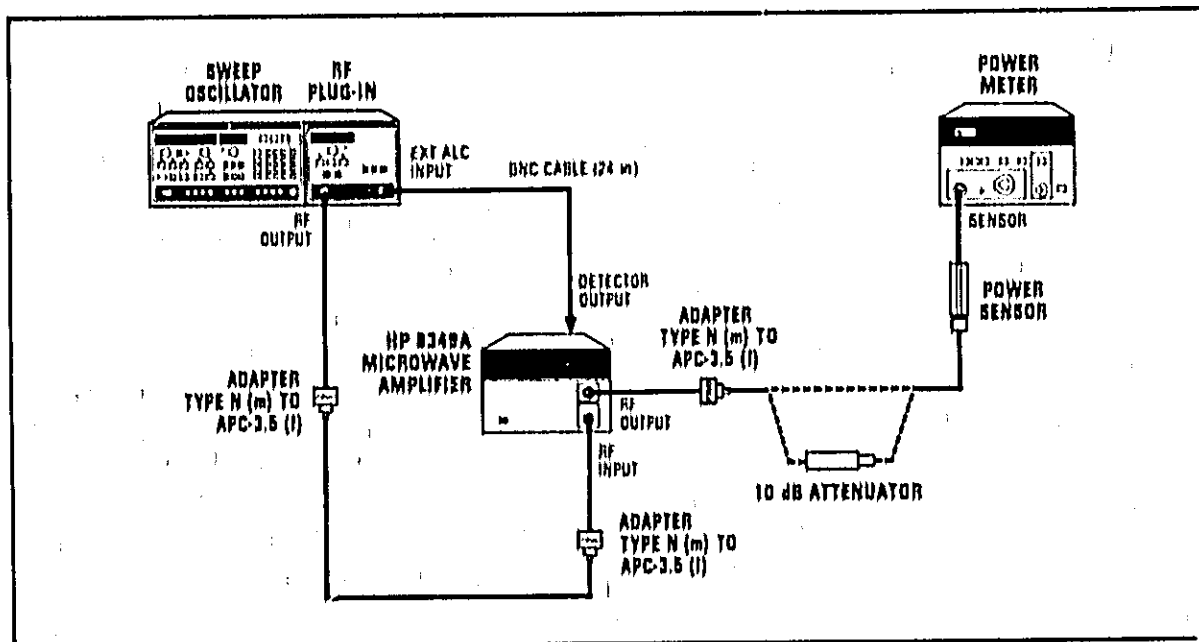

Figure 4-2. Leveled Output Power and Flatness Test Setup
29. Connect the equipment as shown in Figure 4-2 with the power sensor connected to the HP 8349A's RF output (attenuator not installed).
33. Connect the 10 dB attenuator between the adapter and power sensor as shown in Figure 4-2. While monitoring the power meter, adjust the manual frequency from 2 to 20 GHz and determine the frequency of the maximum power point. Return the sweep oscillator to the frequency of the maximum power point.